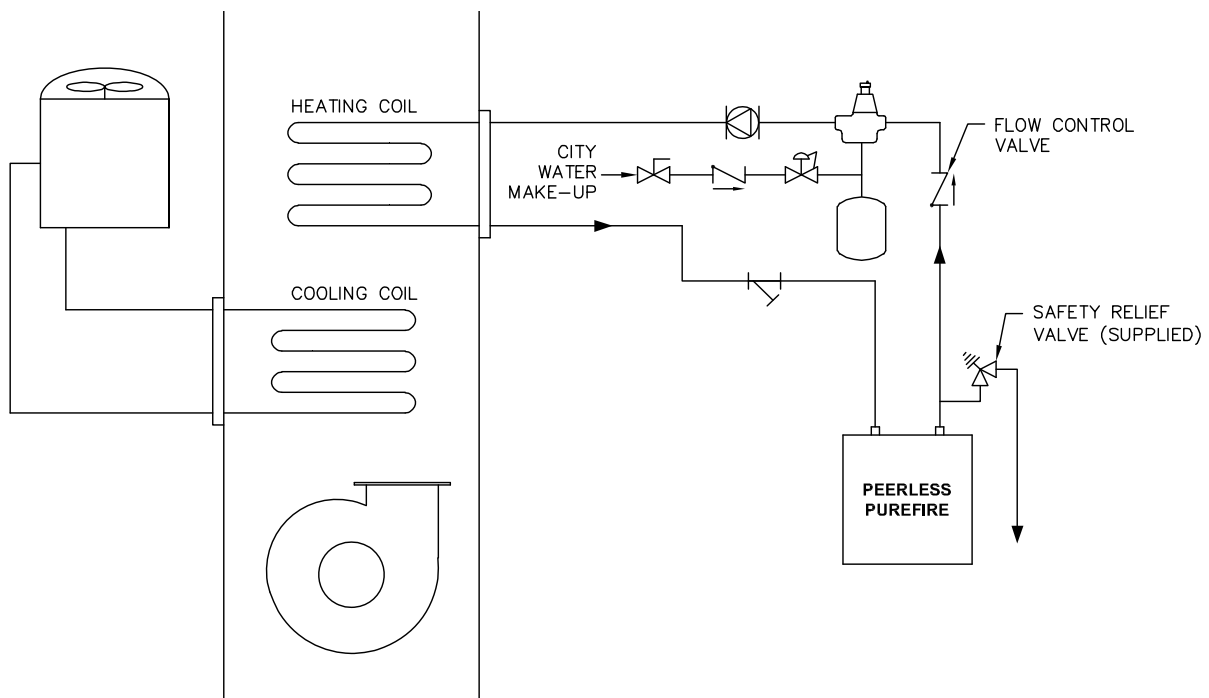

Figure 4.8: Boiler Connected to a Heating Coil in a Forced Air System
2. For boilers connected to heating coils in a forced air system where they may be exposed to chilled air circulation, install flow control valves or other automatic means to prevent gravity circulation of the boiler water during cooling cycles. See Figure 4.8 for an illustration.